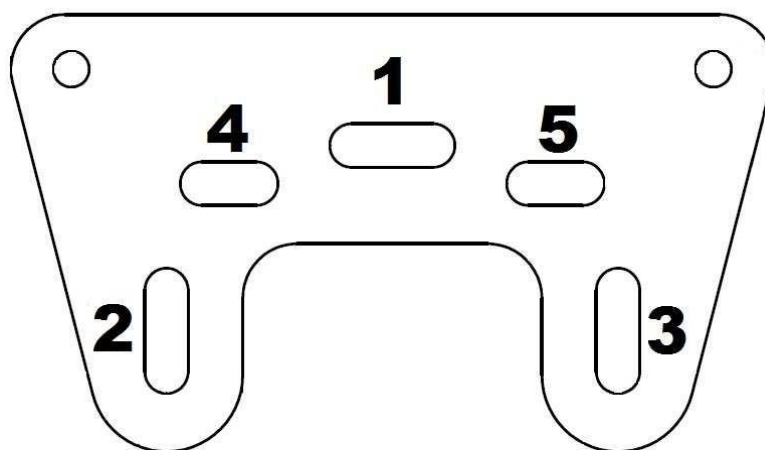

Fig.4
5. Using the $\varnothing 10$ drill, drill the holes for the mounting dowels in the marked places. The holes should be drilled in the correct order, starting with the hole marked on the template with the number 1 (**Fig.4**). After drilling the hole 1 correctly, move to drilling holes 2 and 3. Then, drill holes 4 and 5. Repeat for the opposite side.